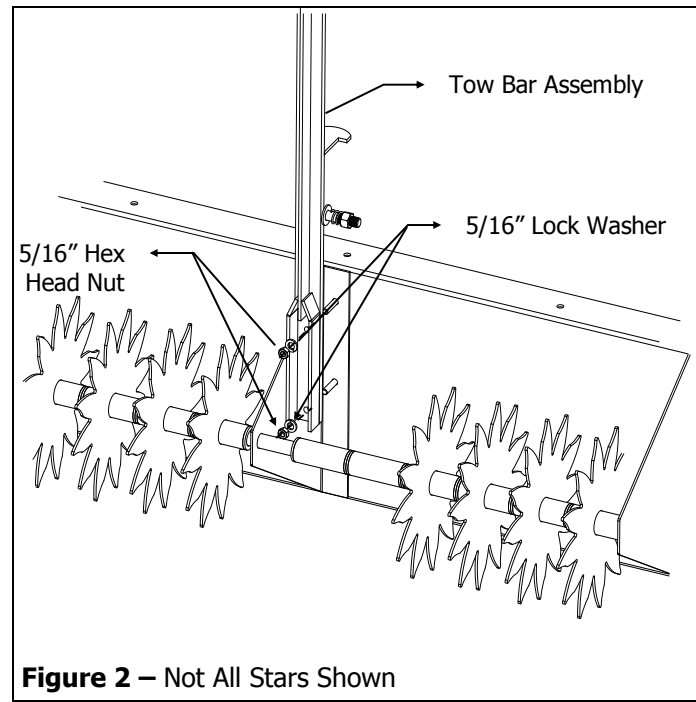

Figure 2 – Not All Stars Shown
3. Attach tow bar assembly to base plate using the 5/16" hex head nuts and 5/16" lock washers that were removed in step 2. See figure 2.